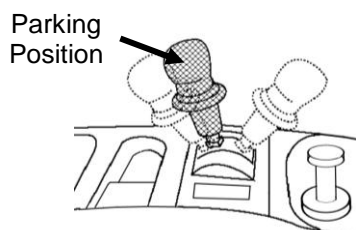

Figure 6.1
- ✓ Check Parking Brake to make sure it is in the Parking Position (Figure 6.1)